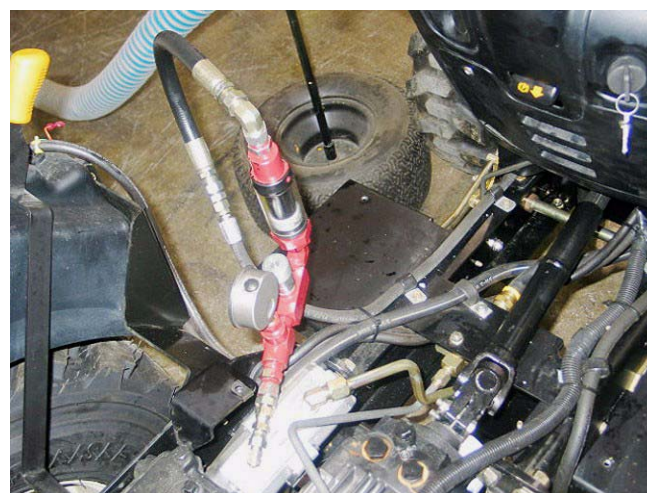

Figure 6.15
- 6.15. To test the auxiliary pump that powers the steering and lift cylinder, use a flow and pressure gauge set. See Figure 6.15.